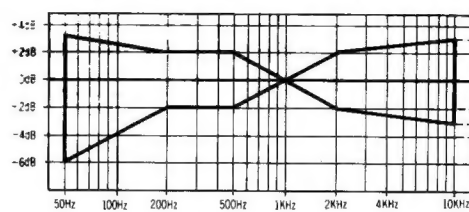
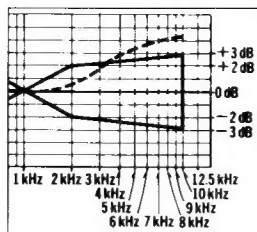
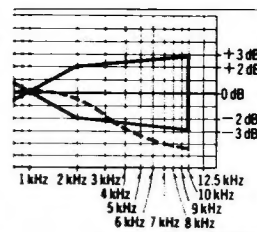

Fig. 10
Fig. 12
Fig. 13
6. Playback the signals recorded in step 5, and check if the frequency response curve is within the limits shown in the overall frequency response chart for normal tapes (fig. 10). (If the curve is within the charted specifications, proceed to steps 7, 8 and 9.)
When the curve exceeds the overall specified frequency response chart (fig. 10) as shown in fig. 12.
- 2) Repeat steps 5 and 6 for confirmation (Proceed to steps 7, 8 and 9 if the curve is now within the charted specifications as shown fig. 10.)
- 3) If the curve still exceeds the specifications (fig. 10), increase bias current further and repeat steps 5 and 6.
When the curve falls below the overall specified frequency response chart (fig. 10) as shown in fig. 13.
- 3) If the curve still falls below the charted specifications (fig. 10), reduce bias current further and repeat steps 5 and 6.